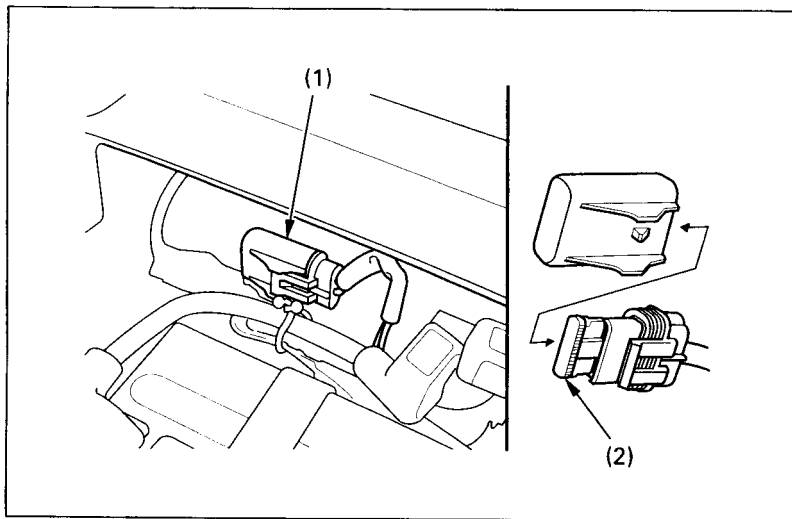

Fig. 4-18
As illustrated in Fig.4-18, the fuse (2) is located in the battery compartment.
3. Remove the fuse holder assembly (Fig. 4-18).